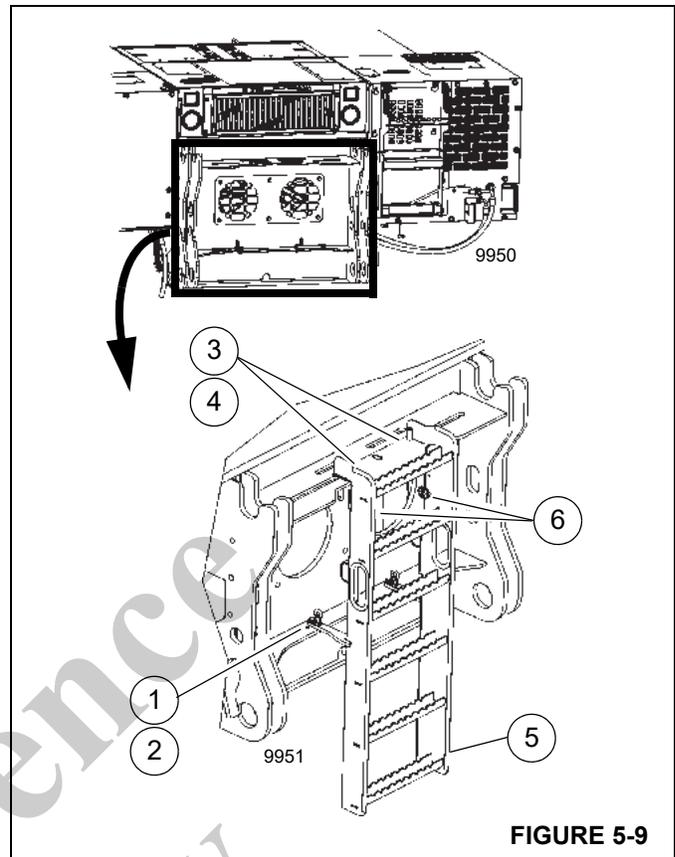

FIGURE 5-9
1. Pull the pins (1, Figure 5-9) and rotate the ladder support plates (2) into position.
3. Insert ladder quick pins (3, Figure 5-9) in holes (4) at the rear maintenance location.
4. Secure the ladder (5) with pins (6).
1. Remove pins (6, Figure 5-9) and ladder from the rear maintenance position.
3. Pull the pins (1, Figure 5-9) and rotate the ladder support plates (2) to the stowed position.